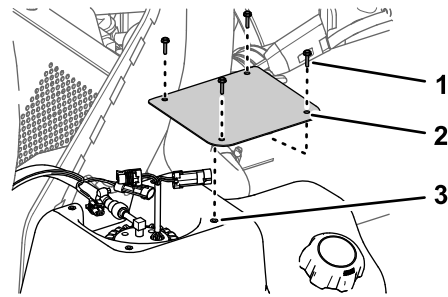

Figure 123
1. Assemble the cover to the tank (Figure 123) with the 4 screws (#10 x 3/4 inch) that you removed in step 2 of Removing the Fuel Pump Cover (page 68).